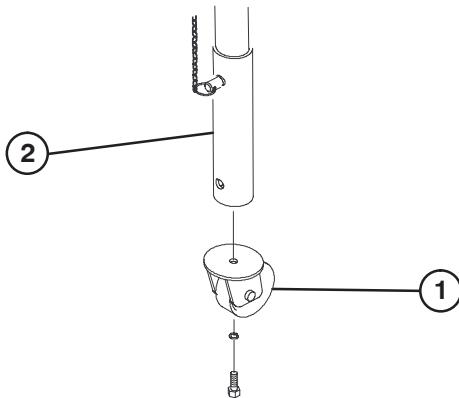

Figure 9
4. Mount castor wheel to rear castor/safety stand tube with bolt and washer previously removed (Fig. 9).